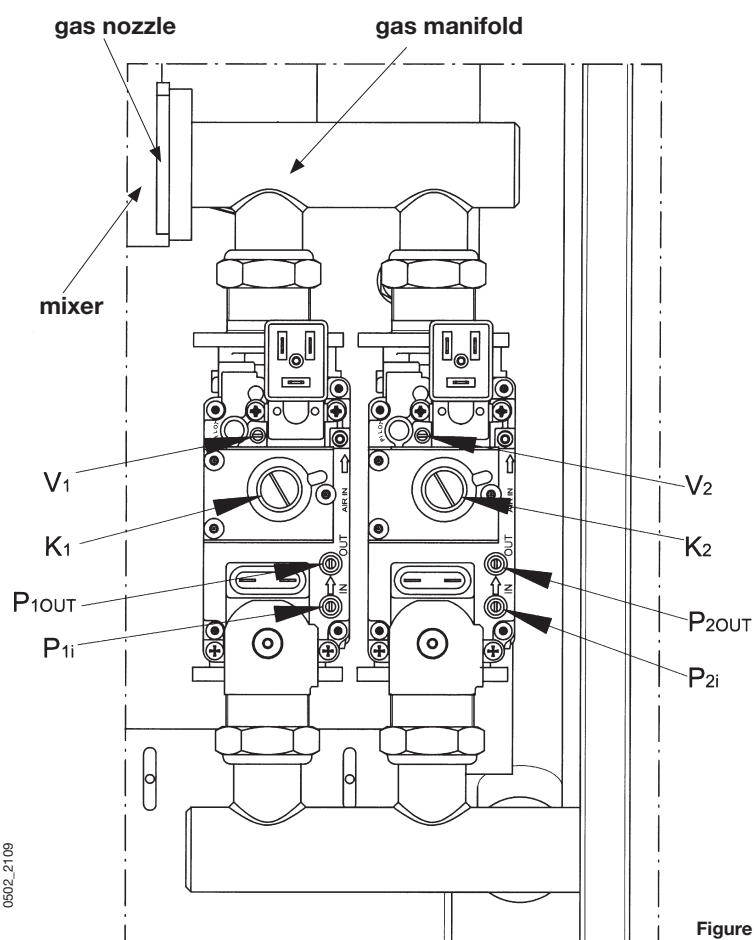

Figure 12b
13.2 DOUBLE GAS VALVE MODELS (POWER HT 1.1200 AND 1.1500) FIGURE 12b
- For models with two gas valves, replace the diaphragm located at the venturi inlet (figure 12b).